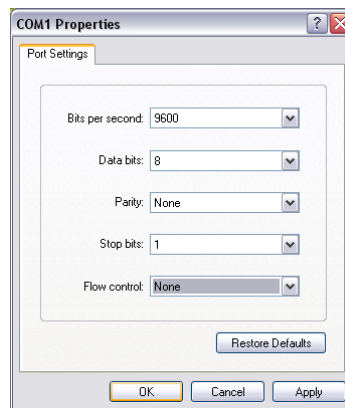

Figure 5-12: Communication Port Properties
4. In the COM Properties window set the port properties as shown in Figure 5-12 (Bit per second: 9600, Data bits: 8, Parity: None, Stop bits: 1, Flow control: None).